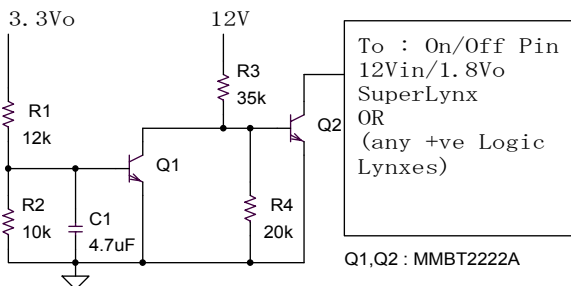
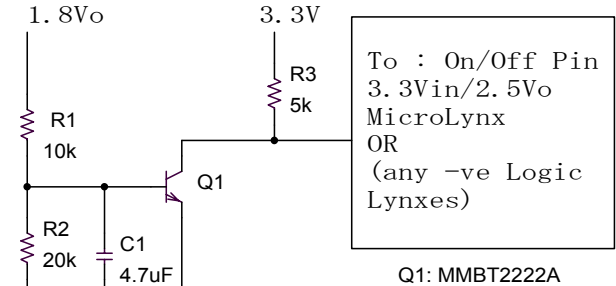

Fig. 3 Turn-on Interface Circuit for 3.3Vo to 1.8Vo SuperLynx (or any +ve LOGIC Devices).
Fig. 4 Turn-on Interface Circuit for 1.8Vo to 2.5Vo MicroLynx (or any -ve LOGIC Devices).
2. The 3.3Vo is used as a signal to a time delayed On/Off interface circuit (see Fig. 3) that turns on the 1.8Vo unit. The 2.5Vo unit remains off.
3. Lastly, the 1.8Vo is then used as a signal to another time delayed On/Off interface circuit (see Fig. 4) for the 2.5Vo uLynx.
Circuit Details: See Fig. 3 for Turn-On Interface circuit for positive Logic modules and Fig. 4 for negative Logic modules.